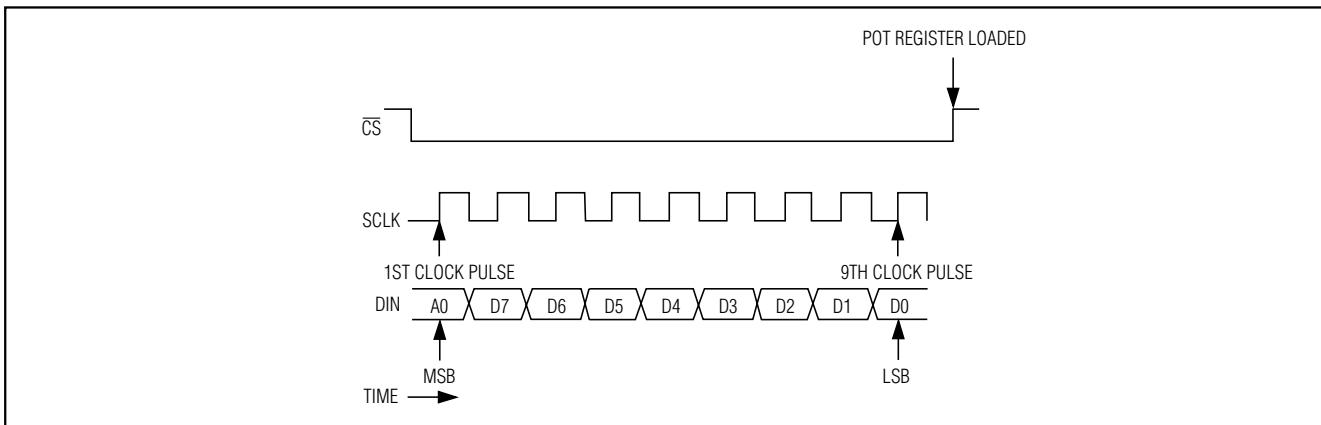

Figure 2. Potentiometer Serial Data Timing Circuit
The MAX5413/MAX5414/MAX5415 use a 3-wire serial data interface to control the wiper tap position. This write-only interface contains three inputs: Chip Select (CS), Data In (DIN), and Data Clock (SCLK). When CS is taken low, data from the DIN pin is synchronously loaded into the serial shift register on each rising edge of each SCLK pulse (Figure 2). After all the data bits